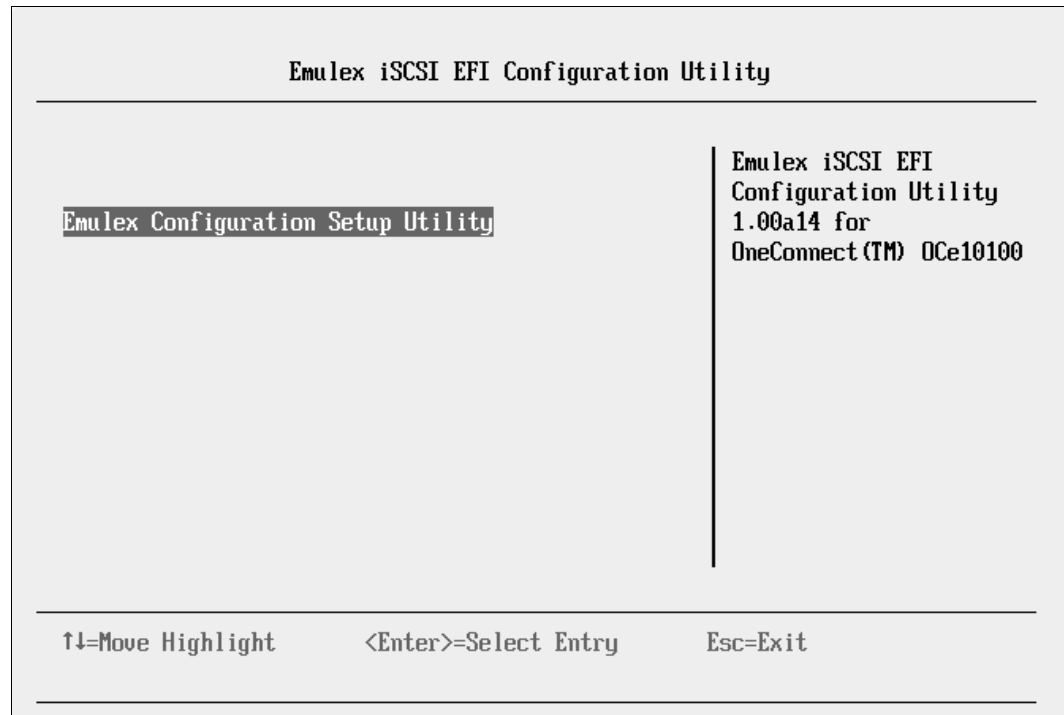

Figure 9-69 Emulex iSCSI EFI Configuration Utility panel
3. In the Emulex iSCSI EFI Configuration Utility panel (Figure 9-69), select **Emulex Configuration Setup Utility** and press Enter.